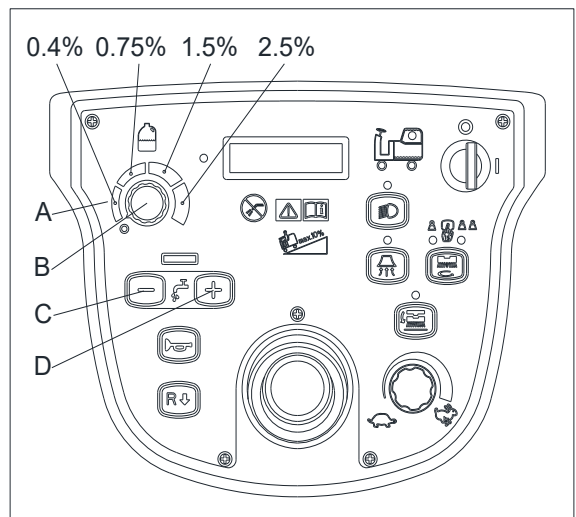

Figure 14
With the same detergent amount, solution concentration can be changed by adjusting water flow through water flow adjusting buttons (C, D, Figure 14).
1. Twist the rotary knob (B, Figure14) by clockwise or anti-clockwise to increase or reduce the detergent amount. Turn the rotary knob anti-clockwise to the end to stop using detergent.
2. There are four level detergent amount indicated by four colors as shown on the control panel (A, Figure 14)